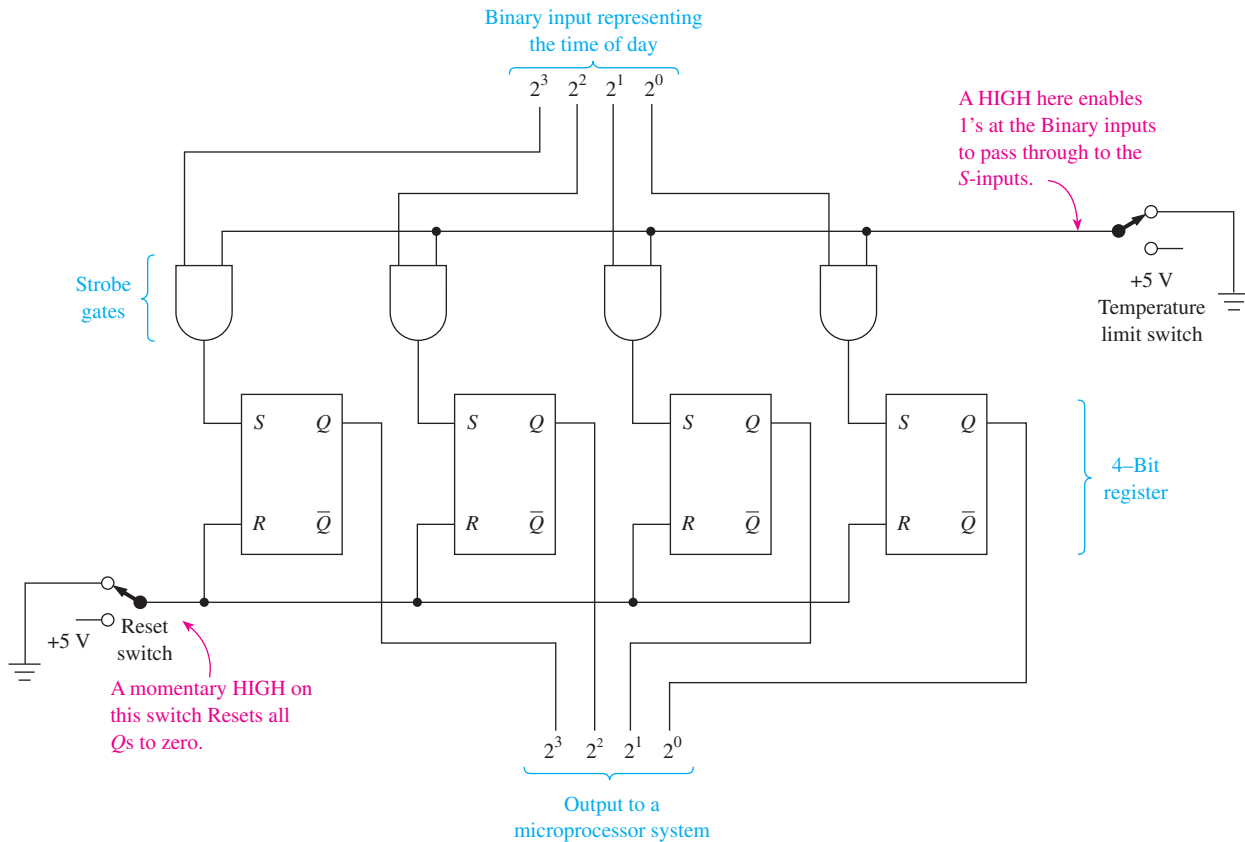

Figure 7 S-R flip-flop used as a storage register.
Let's say that we need a storage register that will *remember* the value of a binary number ($2^32^22^12^0$) that represents the time of day at the instant a momentary temperature limit switch goes into a HIGH (1) state. Figure 7 could be used to implement such a circuit. Because a 4-bit binary number is to be stored, we need four S-R flip-flops. We will look at their Q outputs with a logic probe to read the stored values.